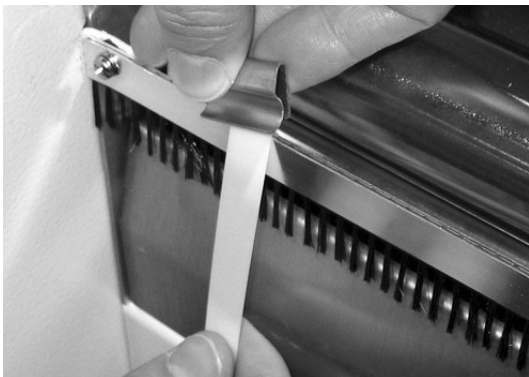

Figure 13
3. With strap in place, press clip down over strap. (Figure 13)